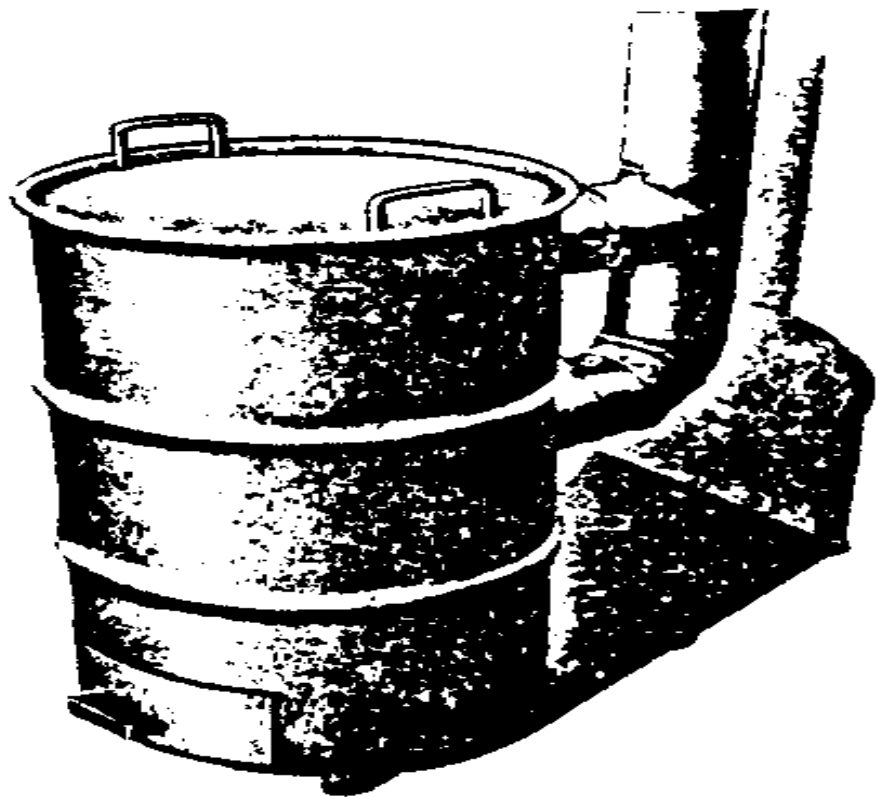

Figure 1.—The double-drum sawdust stove.
After seeing these stoves heating homes in Chile and reviewing plans(1) for the types used in Afghanistan and England, I fabricated an experimental stove (Figure 1) at the Forest Products Marketing Laboratory in Princeton, West